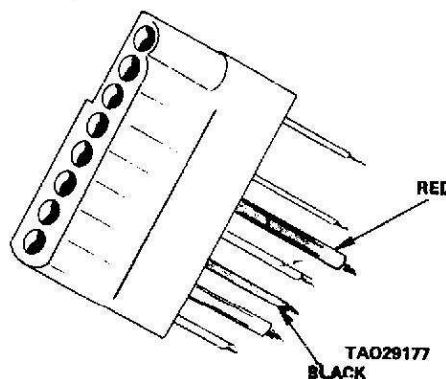

Figure 2-35. Ignition Switch Connector (Black and Red Wires).
(21) Pull apart the ignition switch steering column connector under the dashboard. Set the multimeter on the lowest ohms scale and zero the meter. With the ignition switch ON, check for continuity between the red and black (figure 2-35) or blue and black wires coming from the switch (figures 2-35 and 2-44.6).